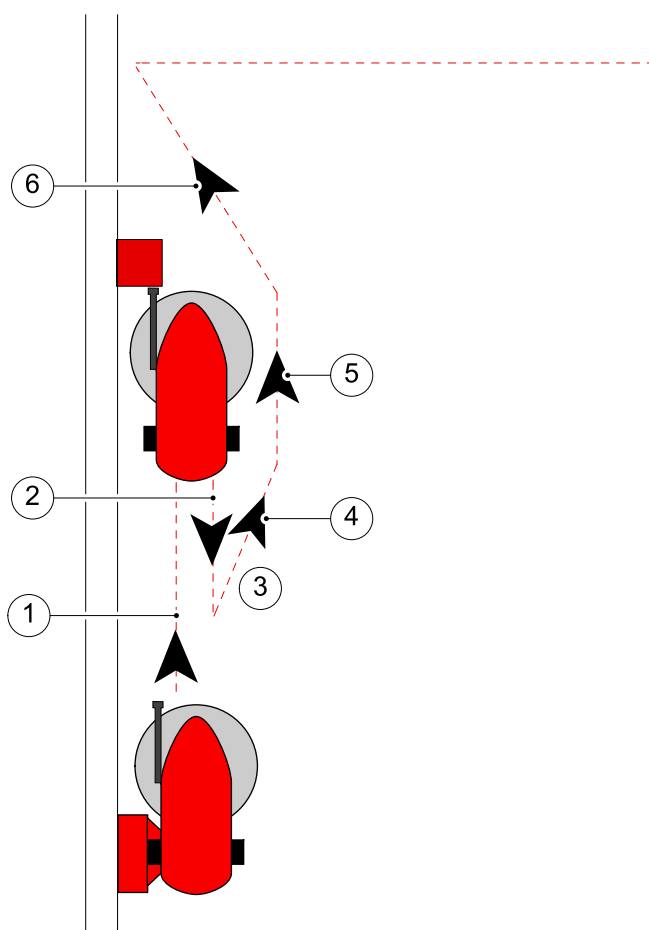

Figure 21. Start of a route
Each time the machine starts a route, it first drives to the water filling station (1) (see figure 21 on page 4-35). The water inlet tube enters the funnel shaped water supply tube and opens the mechanically operated shut-off valve. The vehicle stops automatically. The water enters the water tank via a water filter.